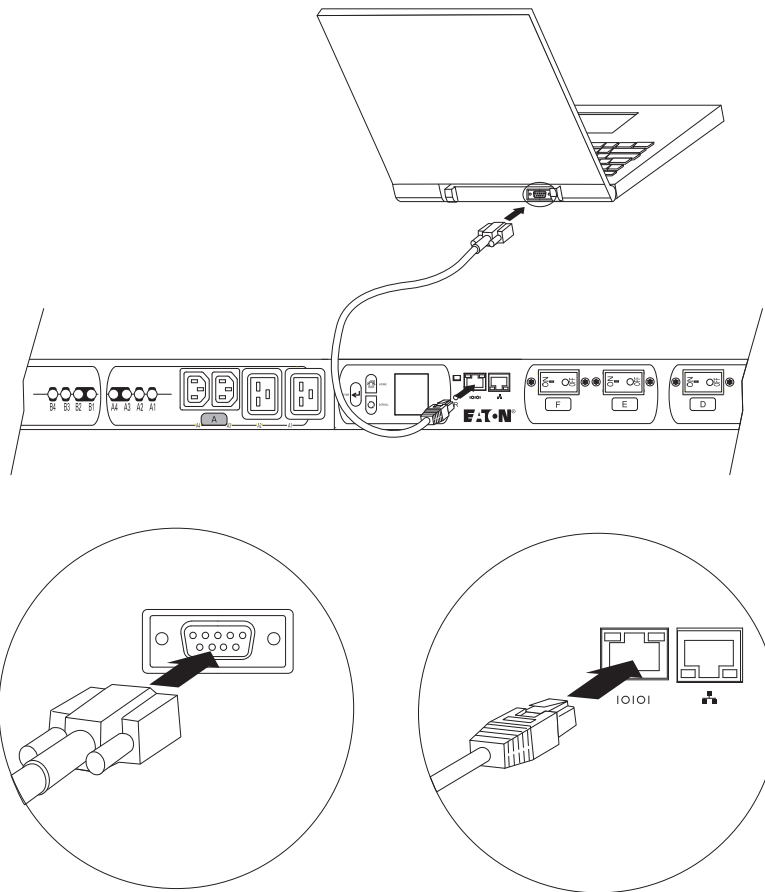

Figure 16. Connecting to a Computer Serial Port
3. Connect the RJ-45 end of the cable to the RS-232 connector on the ePDU. Connect the DB9 end of the cable to the serial connector on the computer. See Figure 16.